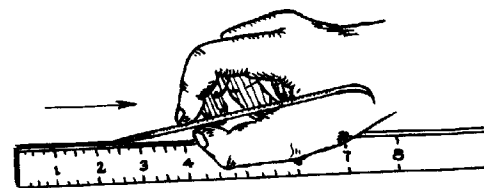

FIG. 4 INCLINING SCRIBER
- Scribe the line by exerting pressure on the scriber and drawing it along the edge of the rule, inclining the top of the scriber slightly in the direction in which it is to be moved. (Fig.4).